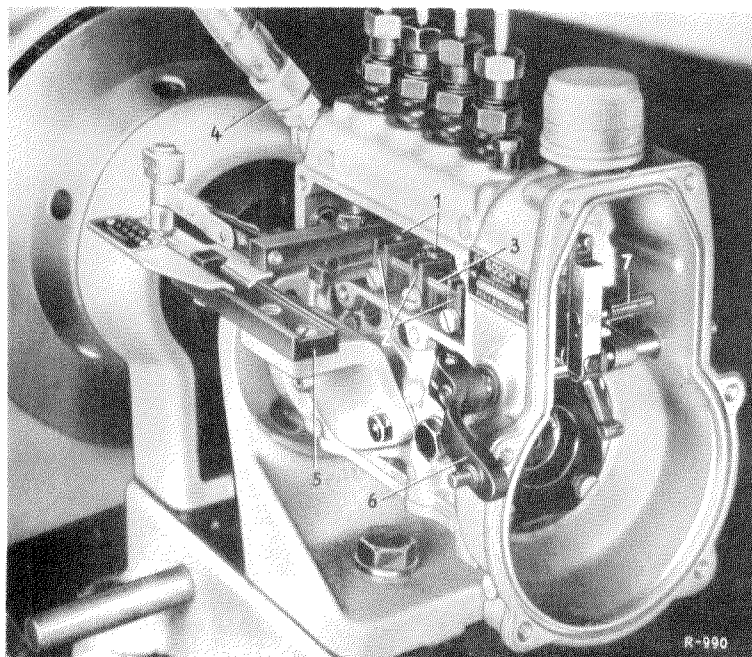

Figure 07-5/8a
To do this, only now mount the control rod travel adjusting device EFEP 304, part No. 000 589 84 21 for the 'M' pump (OM 621) (see Figure 07-5/8a).
The control rod travel adjusting device (5) is screwed on in place of the feed pump; thus the opening is closed at the same time. The guide pin is connected with an additional clamp to be mounted on the control rod; however, do not fail to observe that the clamping pieces (2) for adjusting the feed quantity allow for sufficient adjustment (see Figure 07-5/8a).